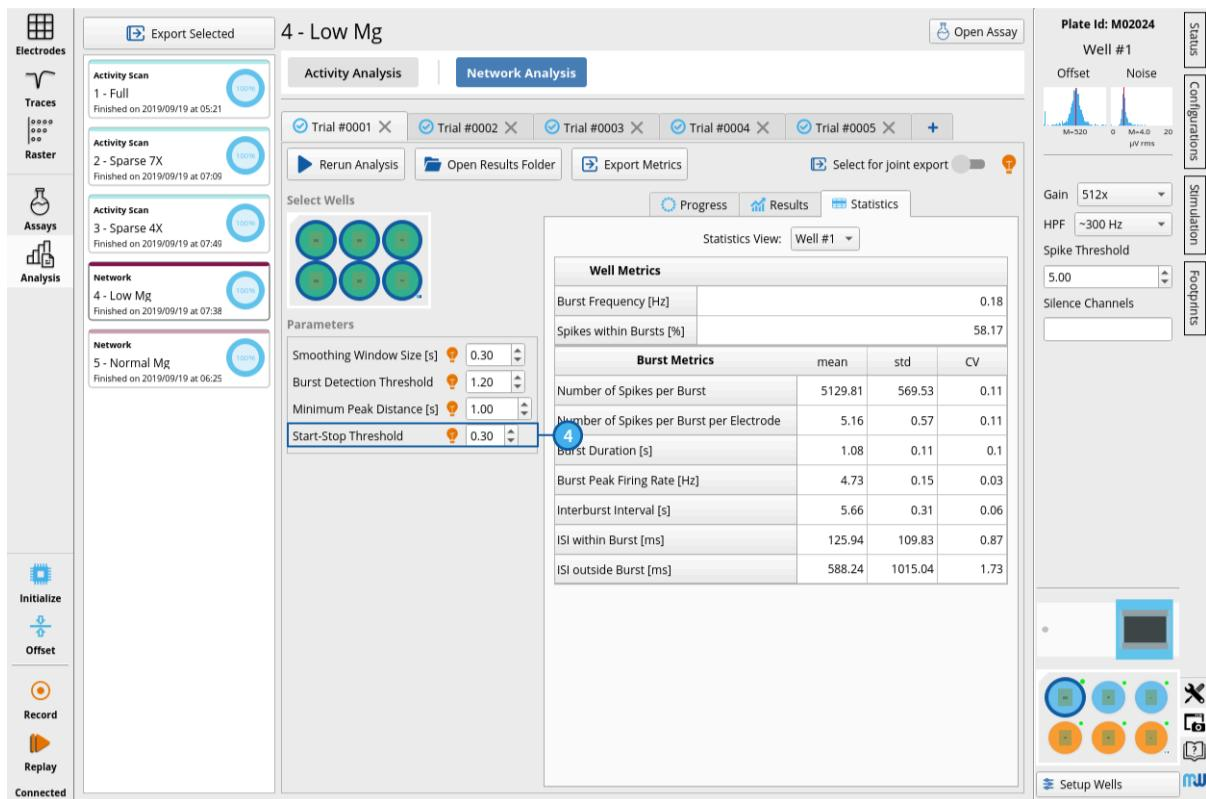
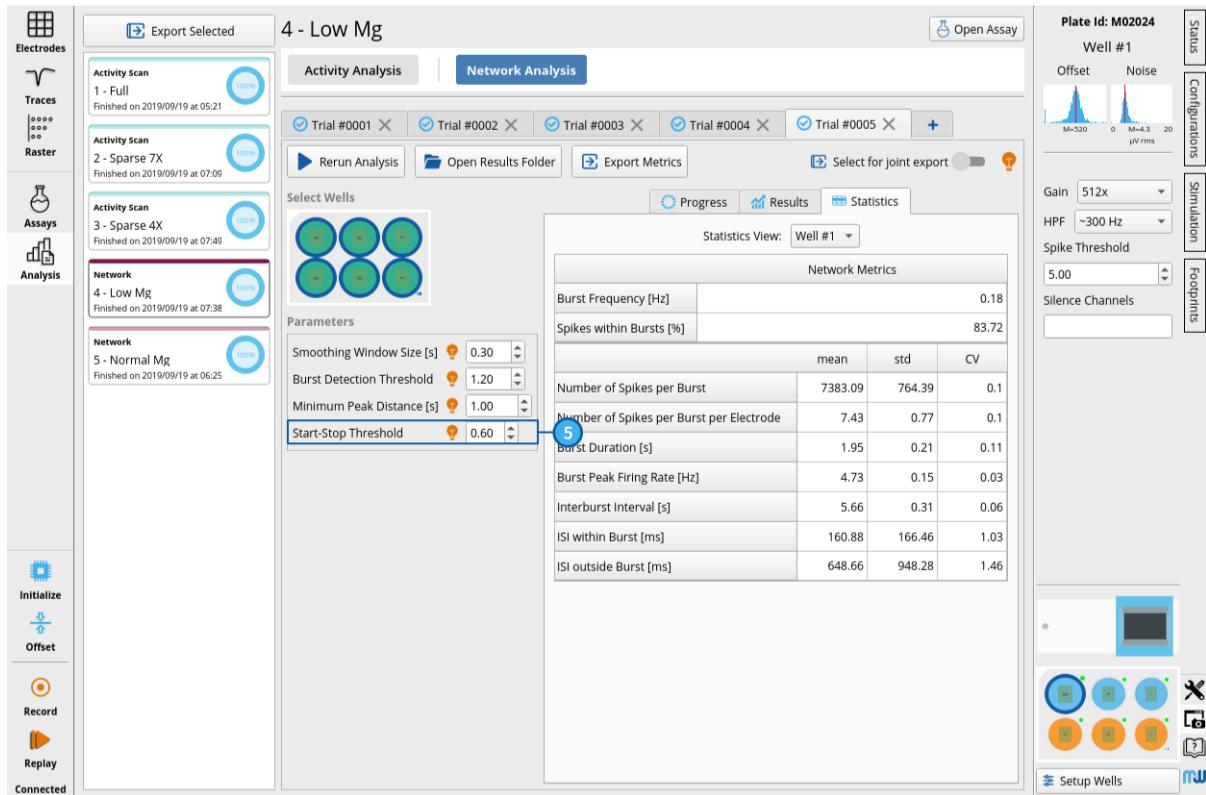

Figure 9.12. Network Analysis Statistics: Default Parameters
Figure 9.13. The Effects of Increasing the Start-Stop Threshold
The Network Analysis extracts a number of metrics from the detected bursts: burst peak amplitude, inter-burst interval, burst duration, and others. Their overview is given in the **Statistics Tab** (Figure 9.6 (2) and Figure 9.12). These summary metrics can be exported in CSV (*network_summary_metrics.csv*) and/or Excel (sheet “Network – Well Level”) formats for further analysis (see Section 3 in Chapter 8).
The Start-Stop Threshold is the upper fraction of the peak height at which the burst start and stop times are defined. The higher the value, the larger the time window around the burst peak that will be used to define the burst start and stop times, and consequently, the higher will be the number of spikes considered to occur within that burst. If it is set to 0.3, for example, then only spikes that fall within the upper 30% of the burst will be considered to occur within the burst. If it is raised to 0.6, then more spikes on the shallow parts of the slopes of the burst will be included. When comparing Figure 9.12 (Start-Stop Threshold = 0.3; default value) to Figure 9.13 (Start-Stop Threshold = 0.6), it is apparent that increasing the Start-Stop Threshold affects most burst metrics, raising the % of Spikes within Burst, Number of Spikes per Burst, Burst Duration and others.